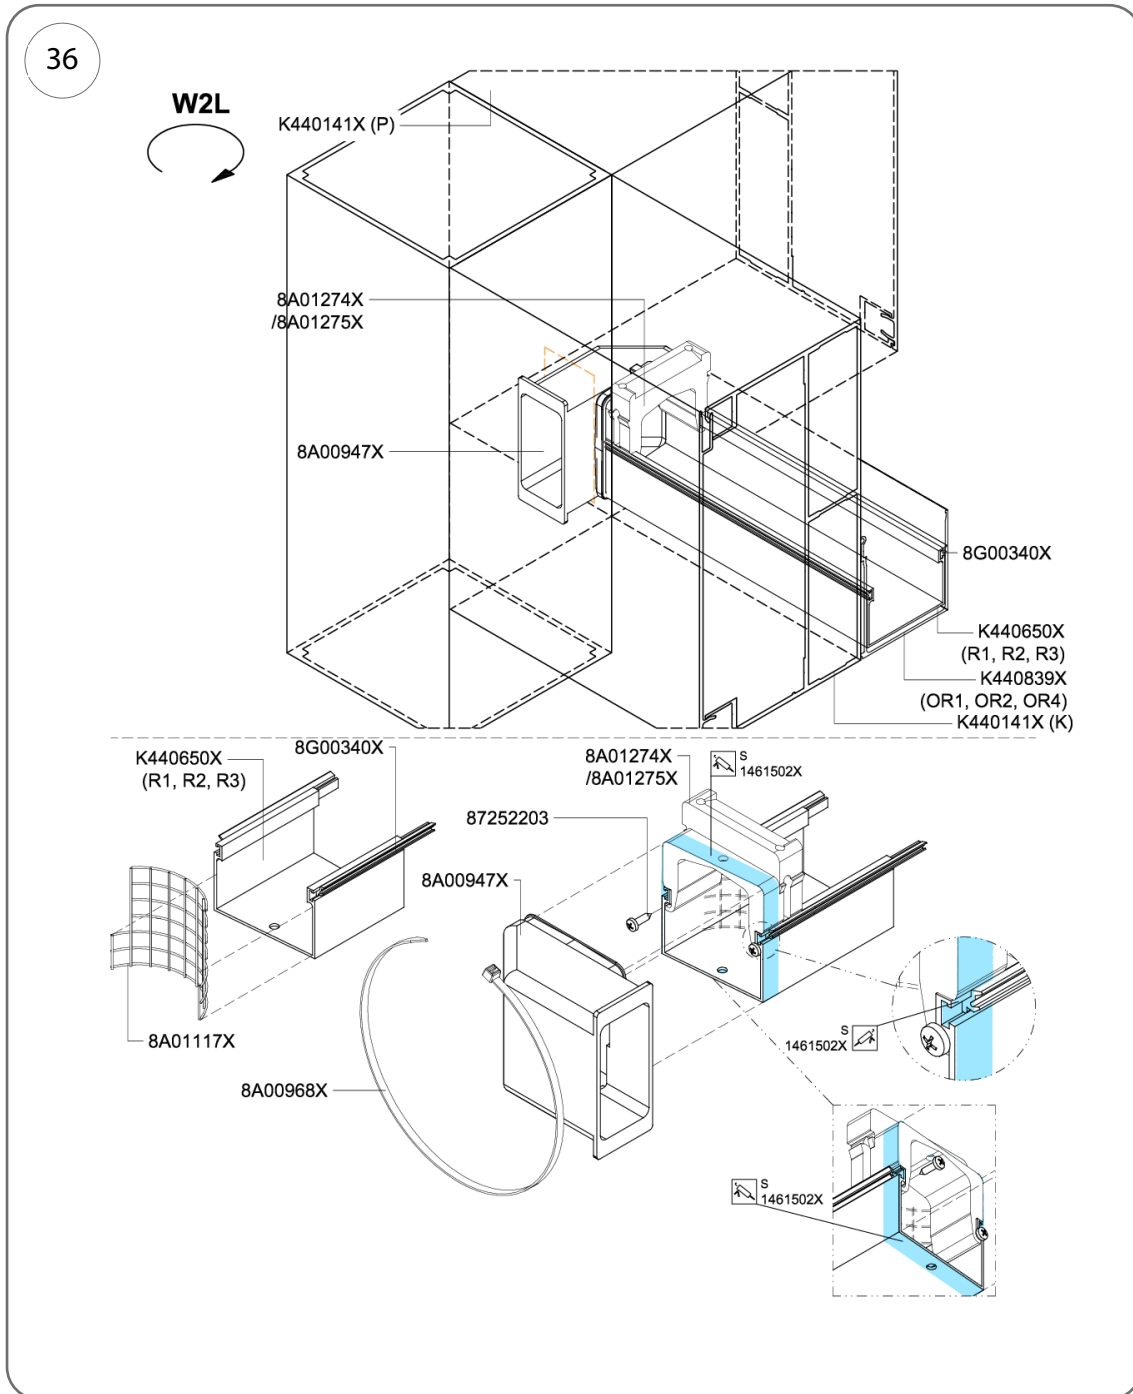

Fig. 36
2. Secure the latch elements to prevent them from moving by screwing in 2 screws, $\varnothing 3.5 \times 13$ mm (cat. no. 87252203) – Fig. 36.
3. Apply a layer of adhesive and sealant, cat. no. 1461502X, around the entire perimeter of the gutter and the snap-fit element, as shown in Fig. 36.
2. Secure the latch element no. 8A01274X (left) or 8A01275X (right) to prevent it from moving by screwing in 2 screws o3.5 x 13 mm (cat. no. 87252203) – e.g. Fig. 36.
3. Apply a layer of adhesive and sealing compound (cat. no. 1461502X) around the entire perimeter of the gutter and the snap-fit element, as shown in Fig. 36.